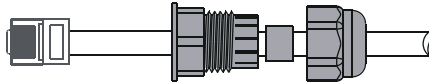

Figure 4.6-4 Remotely close the cable connection
Step 3-2 For Remote Shutdown. Run the cable through the steel plate , Then wire from pins 5 and 6. Table 4.6-1 describes the 6-pin port definition,Wiring is shown in Figure 4.6-4.